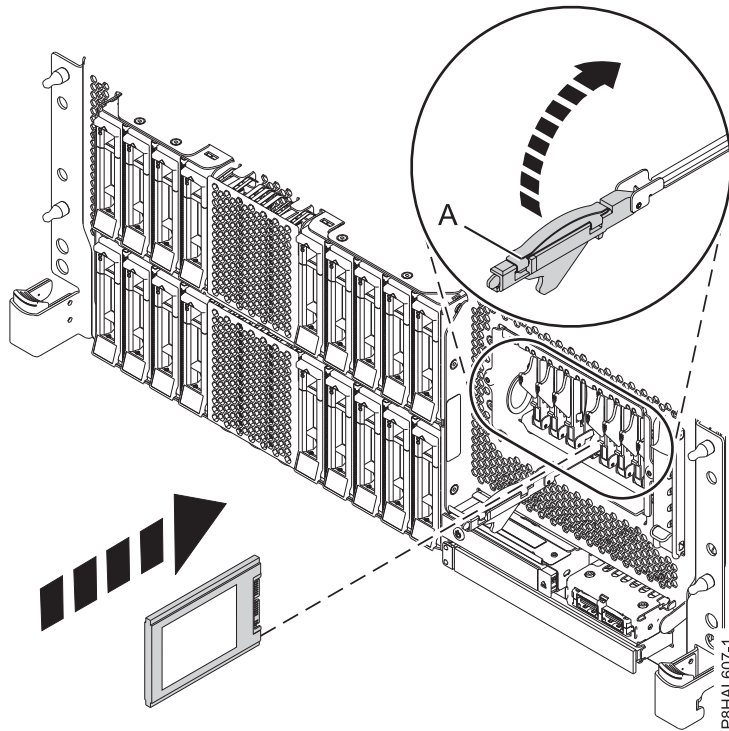
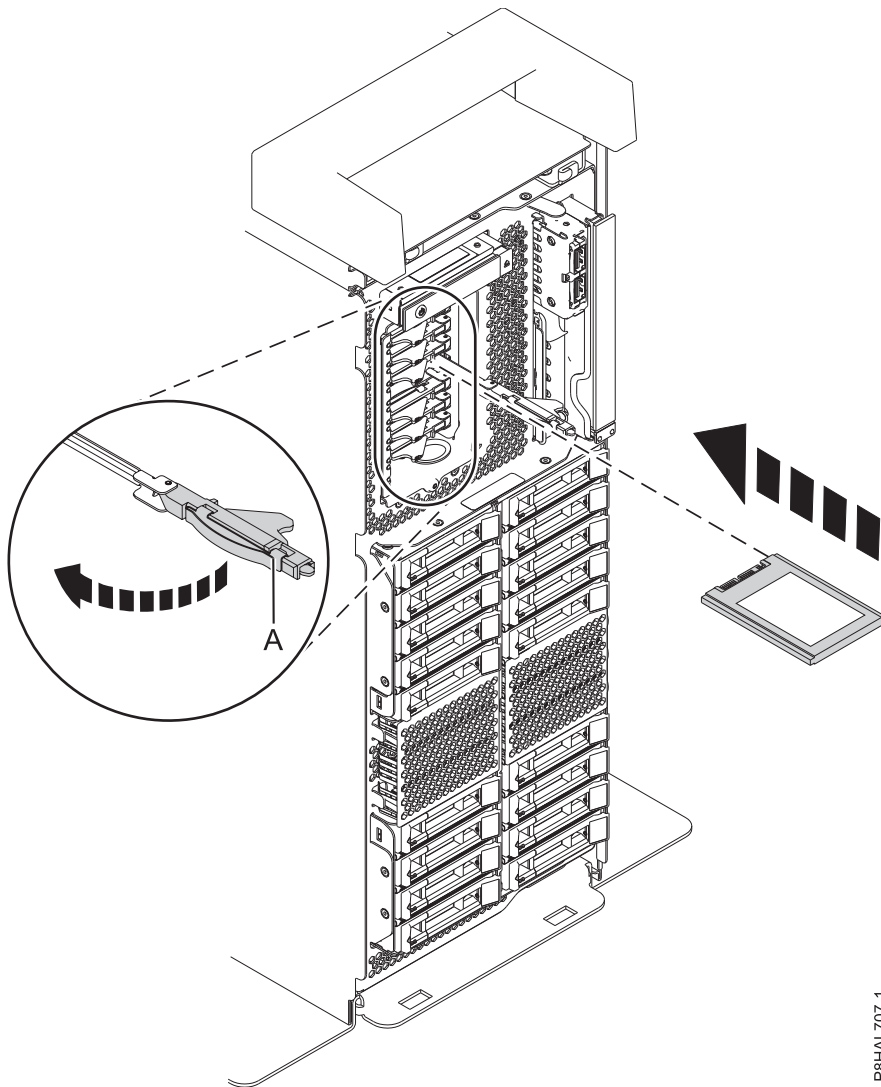

Figure 14. Installing an SSD in a rack-mounted expanded function system
Figure 15. Installing an SSD in a stand-alone expanded function system
3. With the SSD drive bay handle (A) in the unlocked position, pull the lever outward to gain access to the guide rails in the SSD slot. Support the bottom of the SSD as you align it with the guide rails in the SSD slot. See Figure 14 on page 19 and Figure 15 on page 20.
- Slide the SSD into the system until the drive stops, and then lock the SSD by rotating the bay handle (A) in the direction shown. See Figure 14 and Figure 15 on page 20.